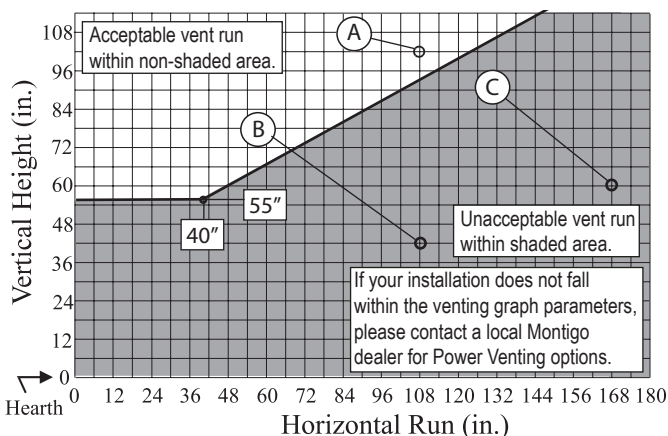

Figure 15. Rear Vent Venting Graph for wall mounted terminations.
- Venting runs must fall within the limits set by the venting graphs, see Figure 15.
Measure the vertical height from the fireplace hearth to the centre of the termination and the horizontal run from the fireplace flue collar to the wall flange of the termination. Plot on the Venting Graph Figure 15 with an 'X'.
Figure 15a. Rear Vented, wall mounted Multi-elbow termination installation. Installation for L52DF\* must have a minimum vertical rise of 52". The vent run must comply with the Venting Graph for Rear vent, wall mounted terminations, Figure 15.
To install the RHS8, frame an opening in combustible construction, Figure 15 below. Slide the Heat shield in place over the vent pipe which attaches to the fireplace. After the fireplace and vent pipe has been installed, clearances should match the dimensions in Figure 15.